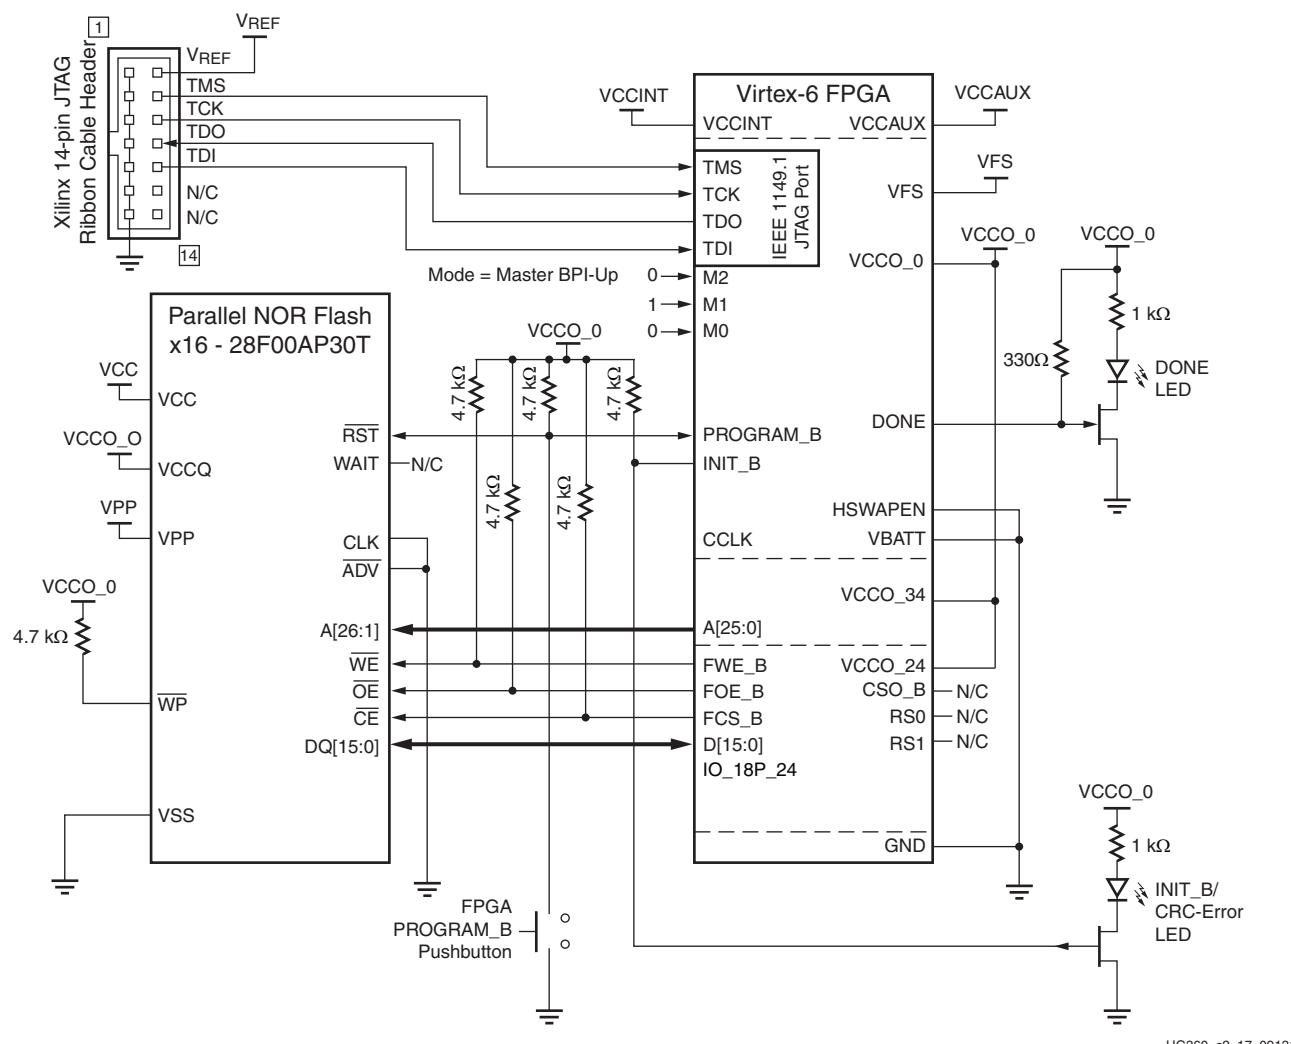

Figure 2-15: Virtex-6 FPGA Master BPI Configuration Interface Example with Micron P30 Flash
From the Master Byte-wide Peripheral Interface (BPI), the Virtex-6 FPGA can configure itself in BPI-Up ($M[2:0]=010$) or BPI-Down ($M[2:0] = 011$) mode. From this interface, the Virtex-6 FPGA configures itself from an industry-standard parallel NOR flash PROM, as illustrated in Figure 2-15.
Additional notes related to Figure 2-15:
3. Figure 2-15 shows the x16 BPI interface. For x8 BPI interfaces, only D[7:0] are used. See Bus Width Auto Detection, page 88.
6. The RS[1:0] pins are not connected as shown in Figure 2-15. These output pins are only required for MultiBoot configuration. See Chapter 8, Reconfiguration and MultiBoot. Use iMPACT 11.3 (or later) to indirectly program the flash when the upper address bits are routed through the RS[1:0] pins to the flash.
13. The FPGA mode (M[2:0]) pins are shown set to Master BPI-Up mode (010). The implementation of a board-level option that enables the user to change the FPGA mode pins to JTAG mode (101) is recommended to enable JTAG-based debug capability for the FPGA during design. This is not required, but the JTAG mode setting ensures that there is no interference from the Master BPI-Up configuration during debug.